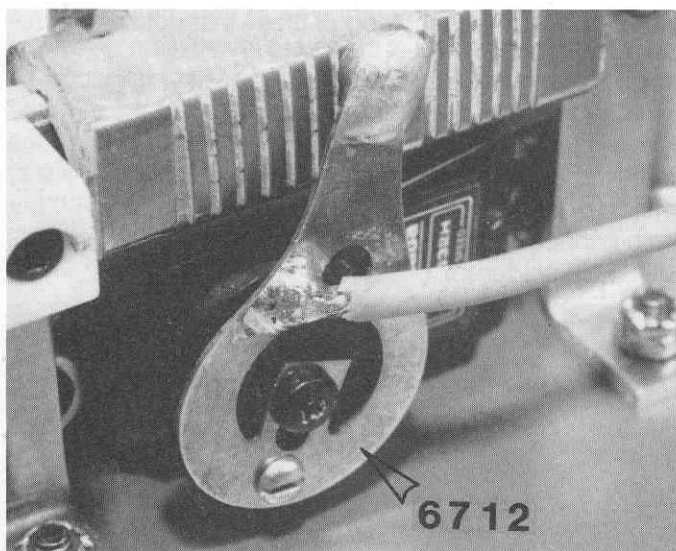

Fig. 155
□ **Fig. 155** (Next page.) Center the servo output arm, as before, then turn it about 30 deg to the right of photo. Locate the wiper arm so that it is in the exact location shown and note the closest holes in the servo wheel to mount the wiper. Solder the wire to the resistor in the exact location shown in the photo. Mount the resistor arm to the servo arm in the exact position shown. If your servo wheel has a raised center then use the small washer to stand the wiper off from the edge of the wheel (see Photo 168).